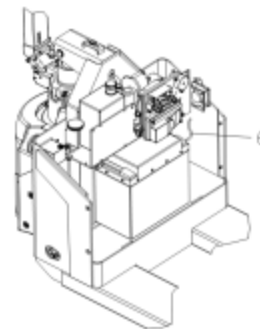

Fig. 14
- (Fig.14) Remove the lithium battery connecting line 6. Pay attention to the positive and negative poles to avoid battery short circuit;